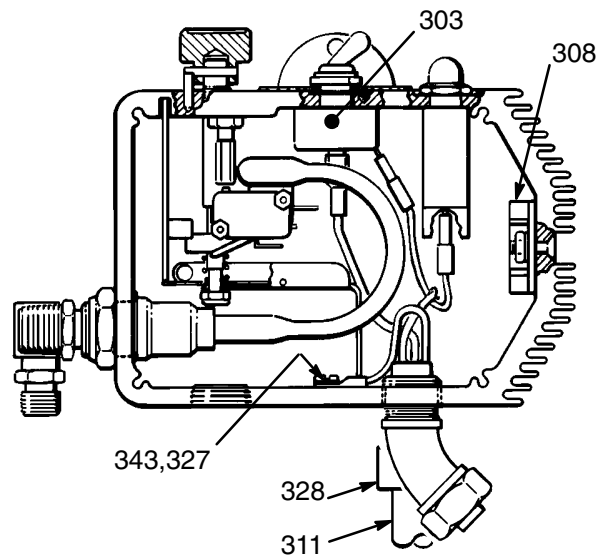

Fig 24-1
Refer to Fig 24-1.
2. Use a needle nose pliers to disconnect the upper terminal wire from the microswitch (302) for ease in removing the ON/OFF switch (303). Refer to Fig 24-1.
3. Use pliers to disconnect the two black wires from the ON/OFF switch (303). Refer to Fig 24-1.
4. Use a 5/8 in. socket wrench to loosen and remove the nut and rubber boot (304) from the top of the pressure control box. Remove the switch guard (305).
6. Install the new switch so the internal tab of the anti-rotation ring (B) engages with the vertical groove in the threads of the switch, and the external tab engages with the blind hole (A) of the pressure control box.
7. Install the switch guard (305), aligning the internal tab with the groove in the threads.
8. Powder the inside of the rubber boot (304) with talcum, then shake excess out of boot.
10. Reconnect the wires to the ON/OFF switch (303) and reconnect the wire to the microswitch (302).